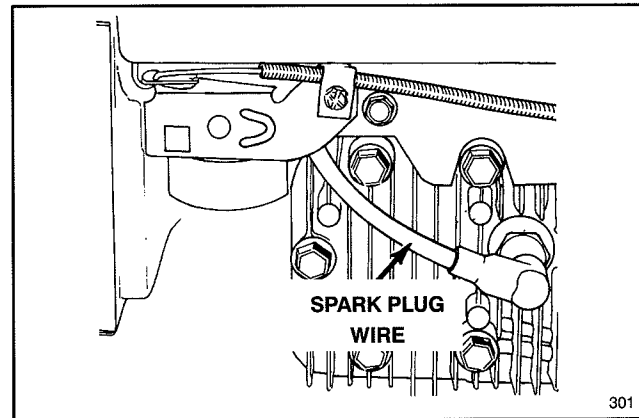

Figure 12
2. Push spark plug wire onto spark plug (Fig. 12).
1. Stop engine and pull wire off spark plug (Fig. 12).
1. Stop engine and wait for engine to cool. Pull wire off spark plug (Fig. 12).